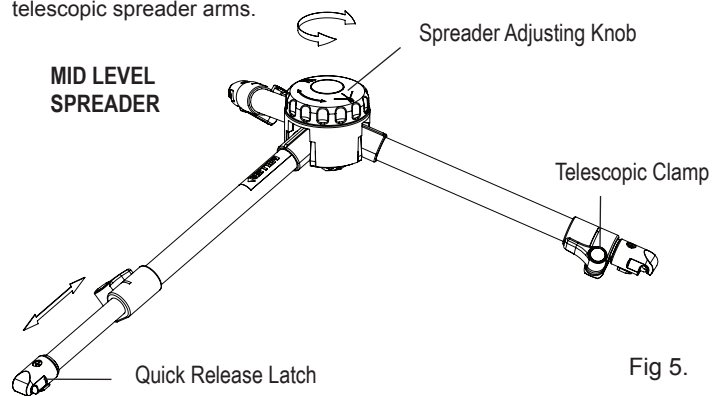

Fig 5.
**Mid Level Spreader (Fig 5.)**